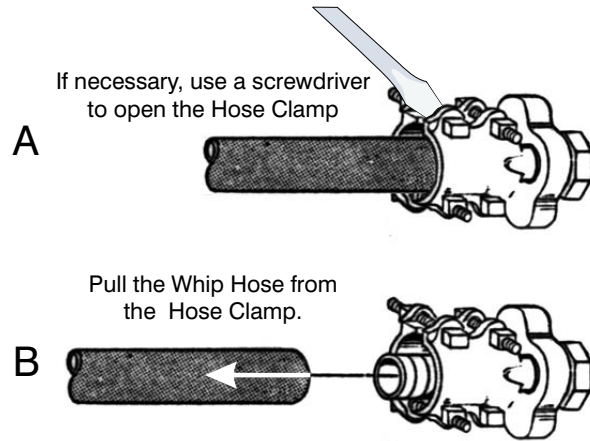

Figure 8-10. Remove Hose from Coupling.
- Separate the two halves of the clamp as shown in Figure 8-10-A.
- It may be necessary to pry the two clamp halves apart. Use a knife blade or a flat blade screwdriver to separate the two clamp halves as shown in Figure 8-10-A.
- Once the clamp is loose, pull the hose from the hose plug of the Hose Coupling as shown in Figure 8-10-B.